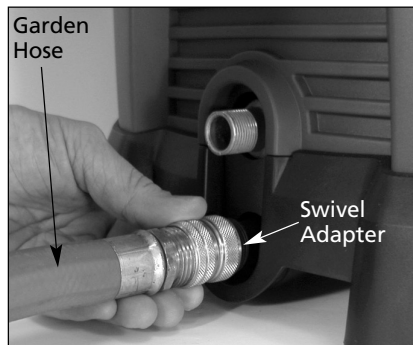

Figure 7 - Garden Hose Connection
2. Attach garden hose to swivel adapter as seen in Figure 7.